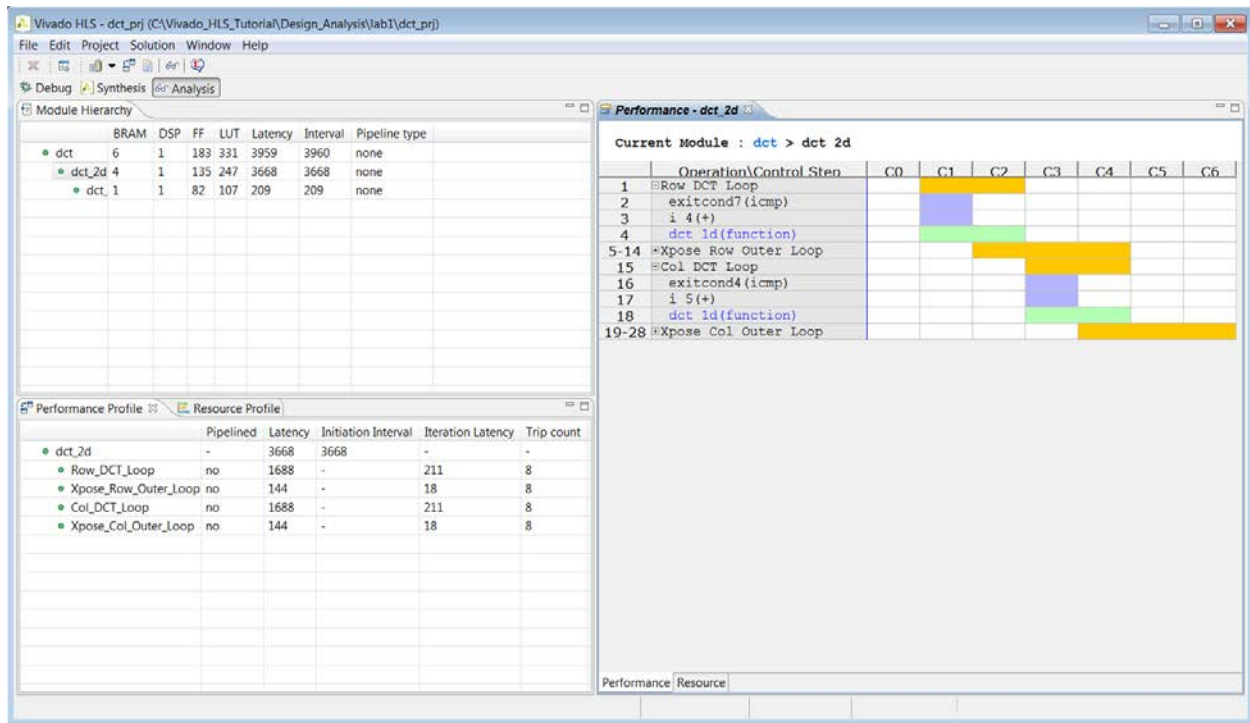

Figure 116: DCT_2D Performance View
6. In the **Module Hierarchy** pane, click the function `dct_2d` to navigate into the view for this function (Figure 116).
Again, you can see a number of loops (shown in yellow in Figure 116). Loops ensure the design will have small area but the design will take multiple iterative states to complete: each iteration of the loop will complete before the next iteration starts.
In the Performance Profile you can see that the latency of all the loops has been substantially reduced (Row_DCT_Loop and Col_DCT_Loop have been approximately halved from the earlier report in Figure 116). However, the majority of the latency is still due to these two loops, each of which calls the `dct_1b` block.